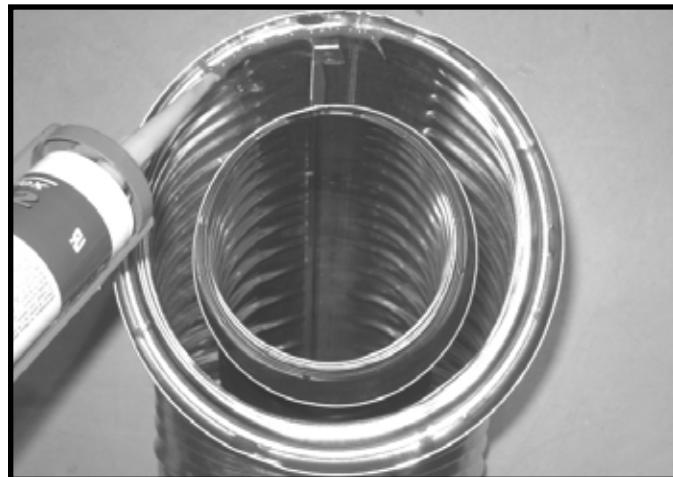

Figure 7.1 High Temperature Silicone Sealant
- Apply a bead of silicone sealant (300 °F minimum continuous exposure rating) to the outside of connecting joint after joining sections. See Figure 7.1. **OR**